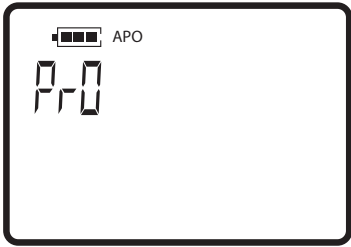

Figure 18
- 3) Press **SET** to start test. Starting test vacuum level is indicated in Upper Left Display (**FIG. 18**). Current system vacuum level is shown in upper right of display and timer is shown in lower left. The timer decrements and when zero, a bells sounds and test ends. At end of test, Start vs. Final Vacuum levels will be displayed to enable determination of any vacuum loss over a set period of time.
- 1) At **Main Screen (FIG. 1)** press and hold **MODE** until “**PrO**” (**Program**) **Screen (FIG.18)** appears. “**PrO**” will blink.
- 1) At Main Screen (**FIG. 1**) press and hold **MODE** until “**PrO**” screen (**FIG. 18**) appears. “**PrO**” will blink.
1. From **Main Screen (FIG. 1)**, press and hold **MODE**. The **PrO** icon will blink (**FIG 18**).